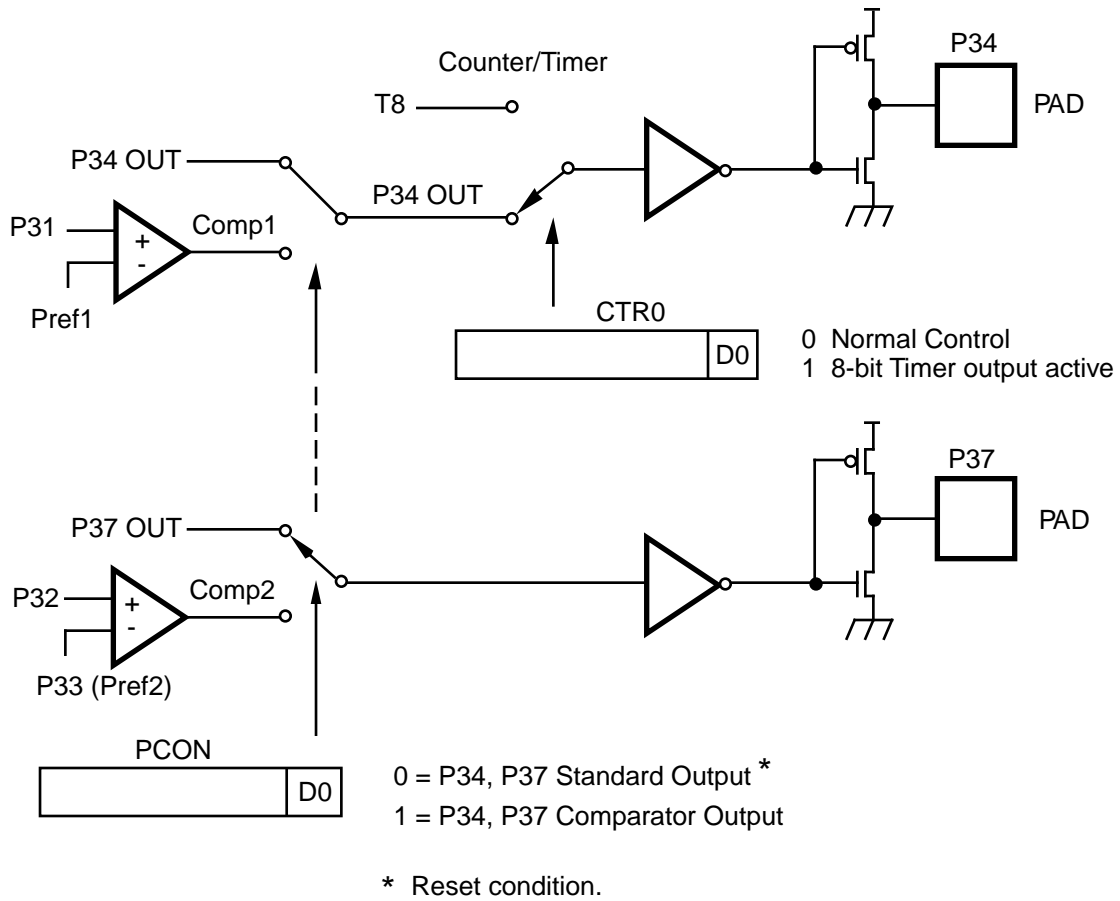

Figure 16. Port 3 Configuration
**Comparator Outputs.** These may be programmed to be outputted on P34 and P37 through the PCON register (Figures 16,38).